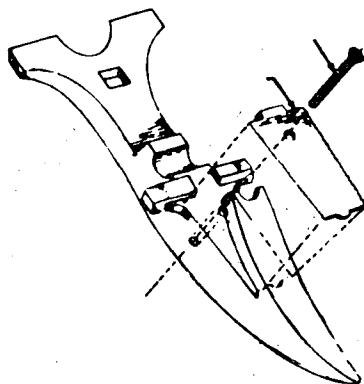

Fig. 5
- b) Place the rivet. Rivet it in the position shown in Fig. 5.